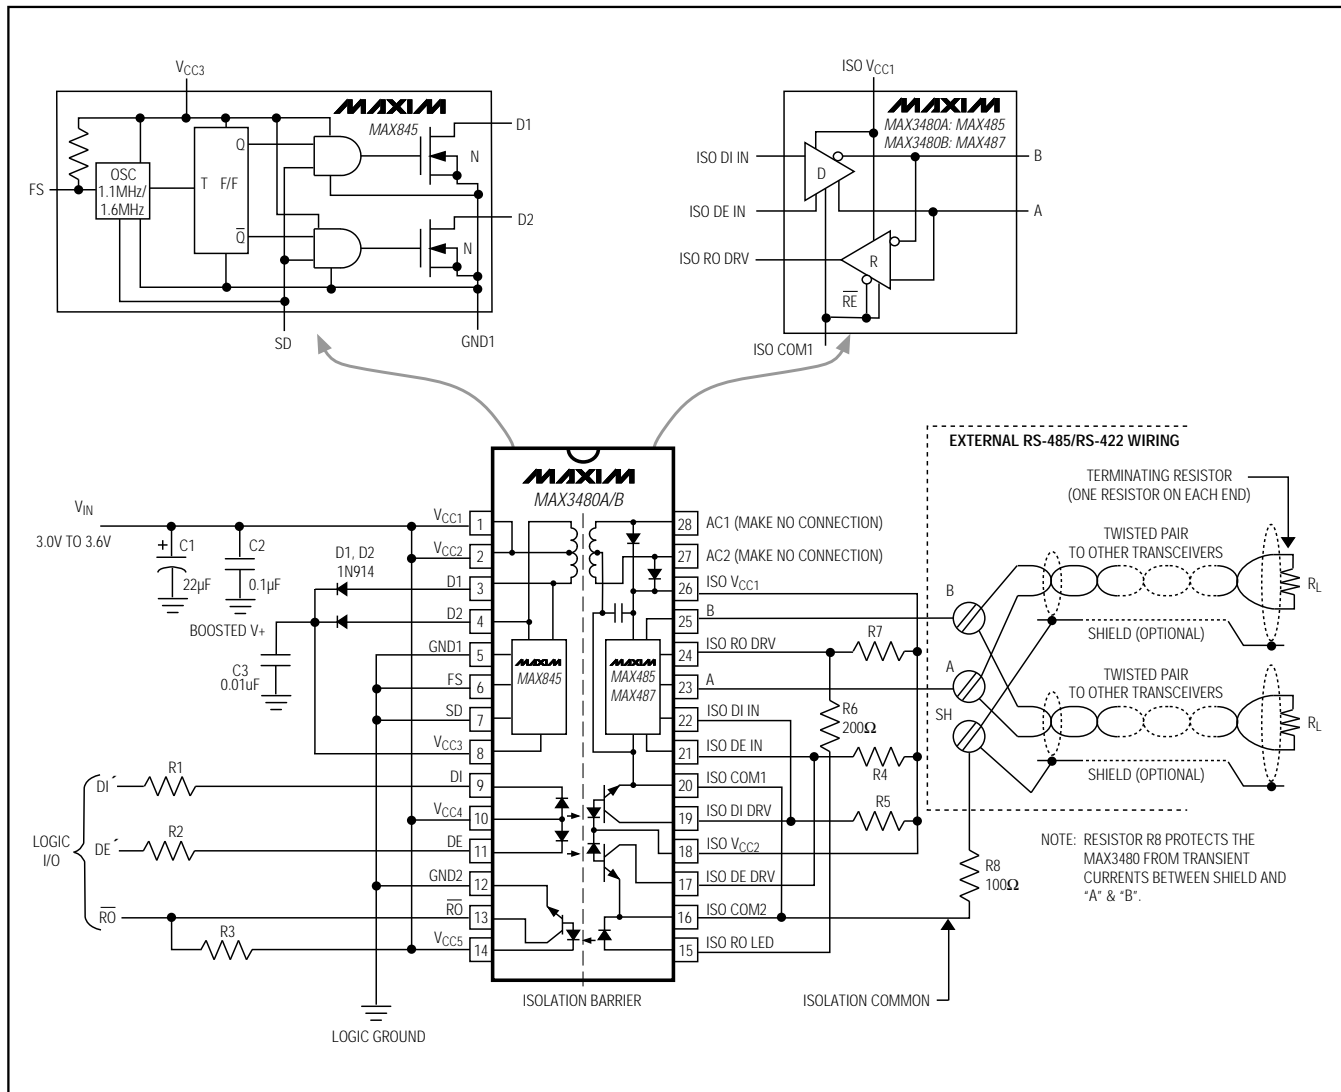

Figure 1. Detailed Block Diagram
**Note 2:** For DE+ and DI+ pin descriptions, see *Detailed Block Diagram* and *Typical Application Circuit* (Figure 1 for MAX3480A/MAX3480B).
The MAX3480A/MAX3480B are electrically isolated, RS-485/RS-422 data-communications interface solutions. Transceivers, optocouplers, a power driver, and a transformer are in one standard 28-pin DIP package. Signals and power are internally transported across the isolation barrier (Figure 1). Power is transferred from the logic side (non-isolated side) to the isolated side of the barrier through a center-tapped transformer. Signals cross the barrier through high-speed optocouplers. A single +3.3V supply on the logic side powers both sides of the interface.